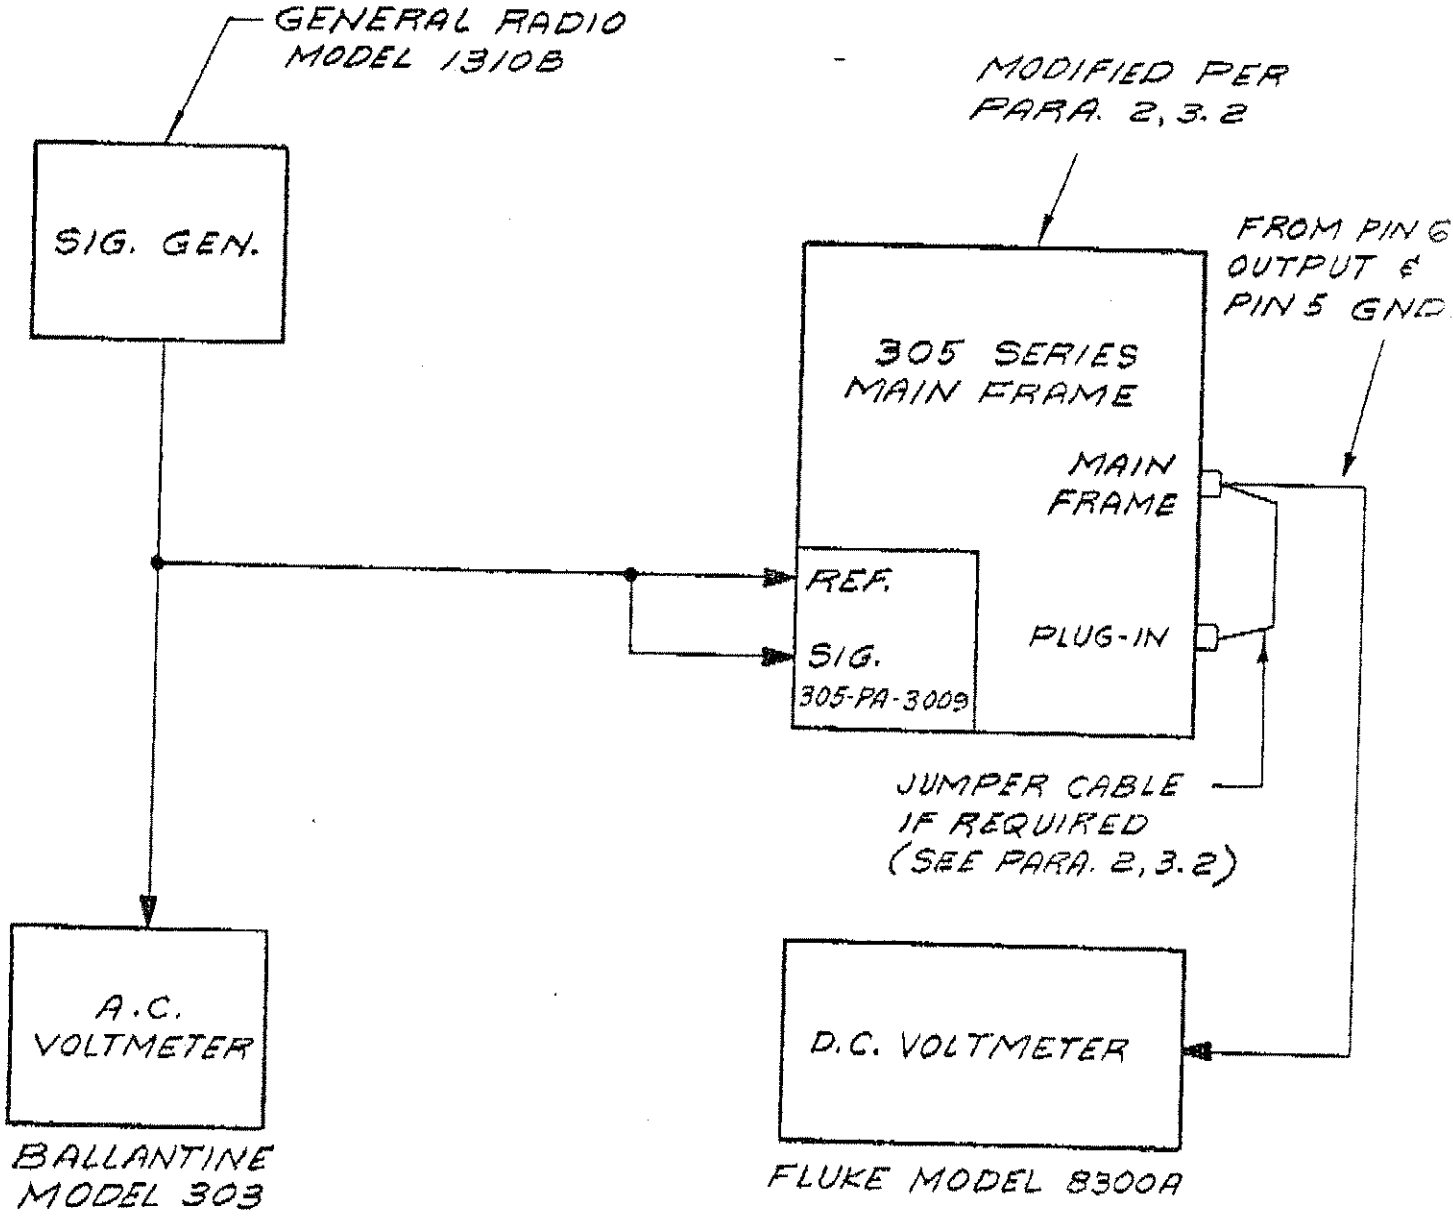

FIGURE 4-2
- 4.2.9 To check level measurement frequency response connect test equipment as detailed by Figure 4-2.